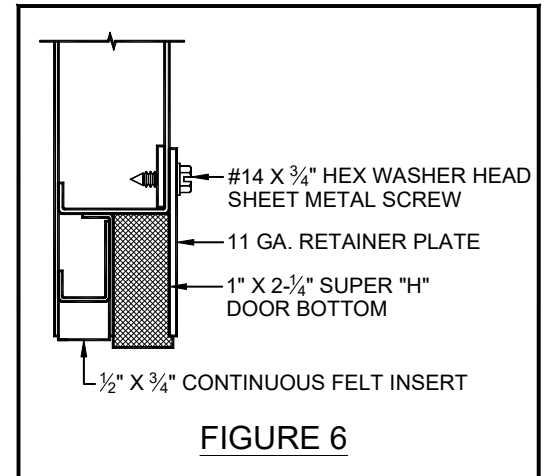

FIGURE 6
- G.** Open the door(s) and install the Super "H" door bottom(s) by matching up the 1/4" x 3/4" obround slots of the door bottom with the pre-punched holes located on the narrow side skin of the door leaf and securing with the #14 x 3/4" hex washer head screws found in **Fastener Package B**. Each door bottom has been marked with the opening number prior to shipment. Be sure to push the door bottom as far up as possible before tightening the screws. Trim off door bottom ends to match the door width. See Figure 6.